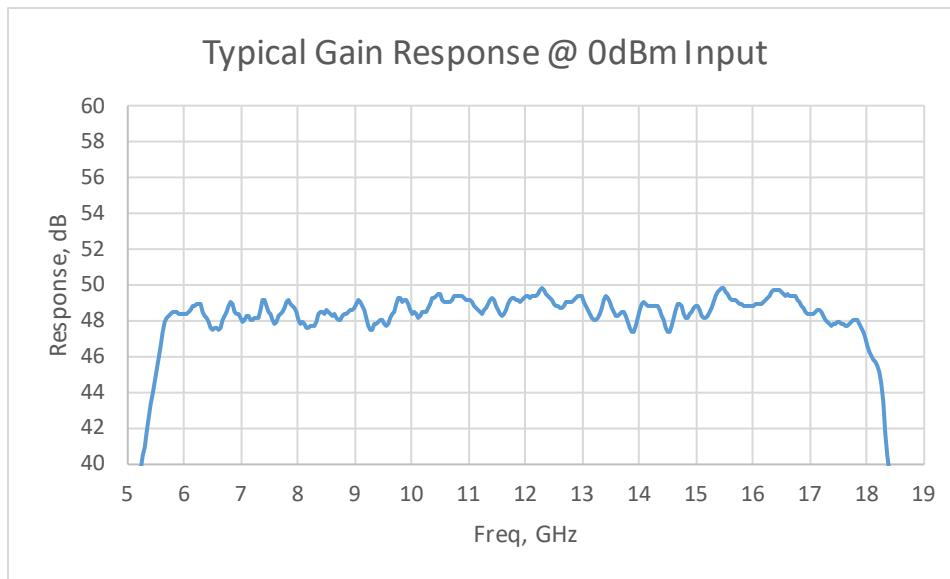
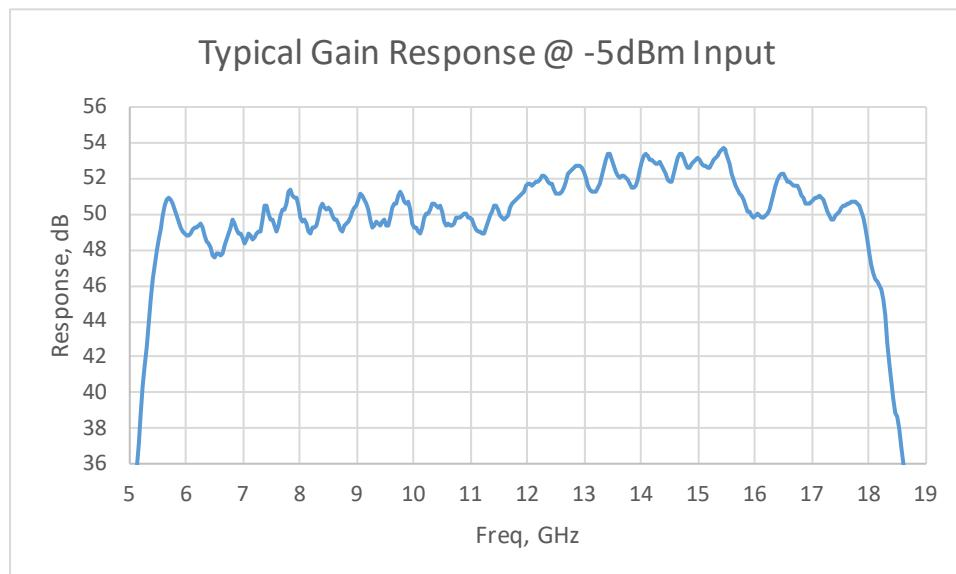
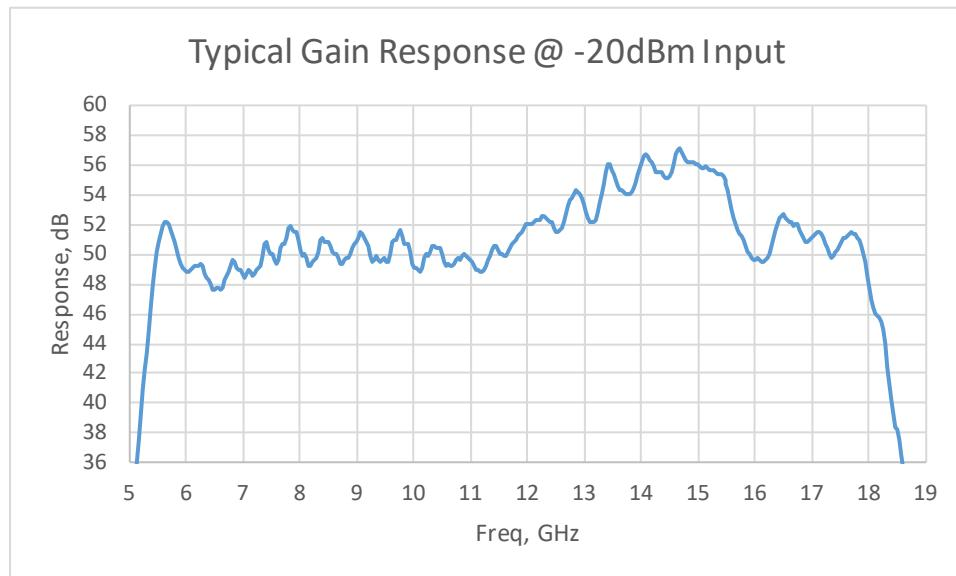

Figure 4-1. Typical Gain Response @ 0dBm input
Figure 4-2. Typical Gain at -5dBm Input
Figure 4-3 Typical Gain Response @ -20 dBm Input
8. The Model 40S6G18-L's typical gain response at 0dBm input and -20dBm input is shown in Figures 4-1, 4-2 and 4-3. The actual gain may vary considerably from that shown in Figure 4-1, but should be ≥ 43.5 dB. Figure 4-2 should be ≥ 45 dB, Figure 4-3 should be ≥ 45 dB.